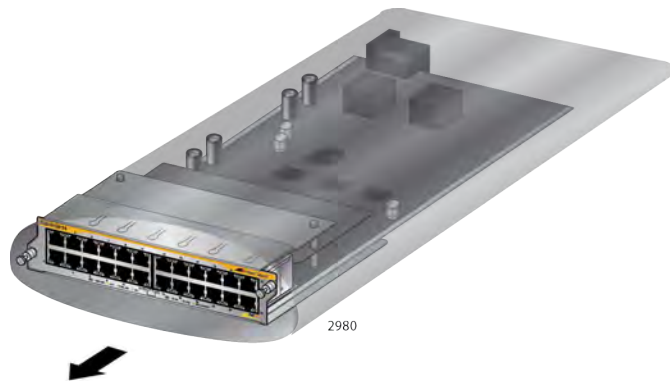

Figure 92. Removing the Ethernet Line Card from the Anti-static Bag
4. Carefully remove the Ethernet line card from the anti-static bag. Refer to Figure 92.